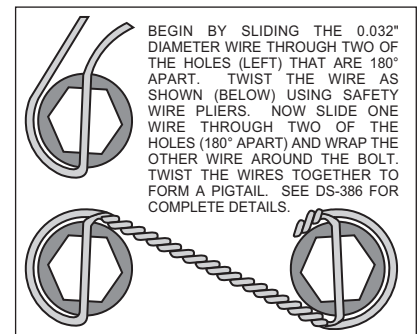

Figure 3. Safety Wire Diagram
- With the larger I.D. side of the rotor (6) facing away from the hat (7), attach rotor (6) to hat (7) using washers (8), and bolts (9) as shown in Figure 1. Using an alternating sequence, remove bolts one at a time, apply red *Loctite*® 271 to the threads, and torque to 180 **in-lbs**. The rotor mounting bolts (9) must be lockwired using standard 0.032 inch diameter stainless steel safety wire as shown in Figure 3. Please refer to Wilwood's data sheet DS-386 (available at www.wilwood.com/Pdf/DataSheets/ds386.pdf) for complete safety wire installation instructions.
- Slide the brake pads (15) up into the caliper (10) from the bottom compressing the "v" spring clip until the pad snaps into place against the caliper bracket, pads should install easily without interference.
- Lubricate caliper mounting studs and nuts with lightweight oil. Install two shims (14) over each stud (13) on the radial mount bracket (1). Slide the caliper (10) in place over the studs and rotor and install the washer (12) and lock nut (11) to hold the caliper in place. The caliper bleed screw should be pointing toward the rear of the vehicle. Snug the lock nuts (11) and check that the caliper (10) is centered over the rotor (6). Add or subtract .016" shims (4) and/or .035" shims (5) as necessary between the caliper mounting bracket (1) and the spindle face to center the caliper (10) on the rotor (6).
- Check that the outside radius of the brake pad (15) is flush with the outside diameter of the rotor face. Add or subtract shims (14) between the caliper (10) and the caliper mounting bracket (1) to gain the proper alignment.
- Check that the caliper is centered side to side on the rotor. Add or subtract shims, (4) and/or (5) between caliper bracket (1) and arm to properly position the caliper.